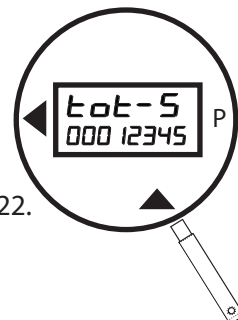

Figure 22.
- As each digit is activated, pass the wand over the **▲** to increment to the desired number (Figure 22).